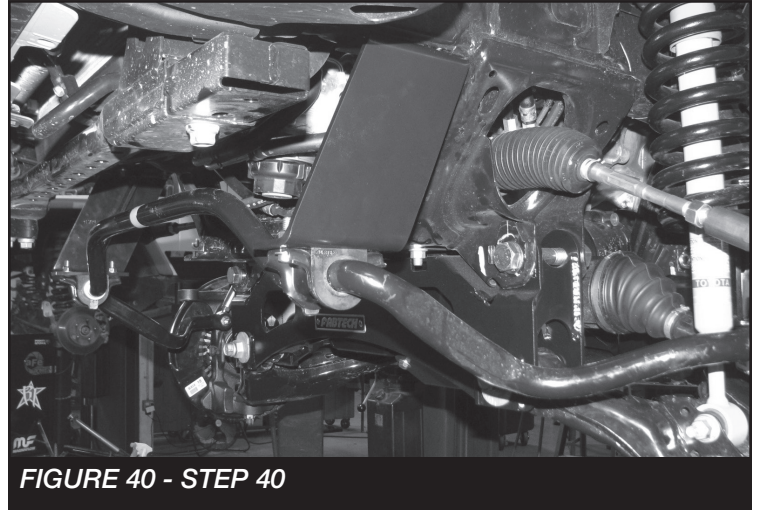

FIGURE 40 - STEP 40
40. Install the sway bar to the new drop brackets with the supplied 3/8" hardware. (The sway bar will need to be mounted upside down from the factory position). Torque to 52 ft-lbs **SEE FIGURE 40**